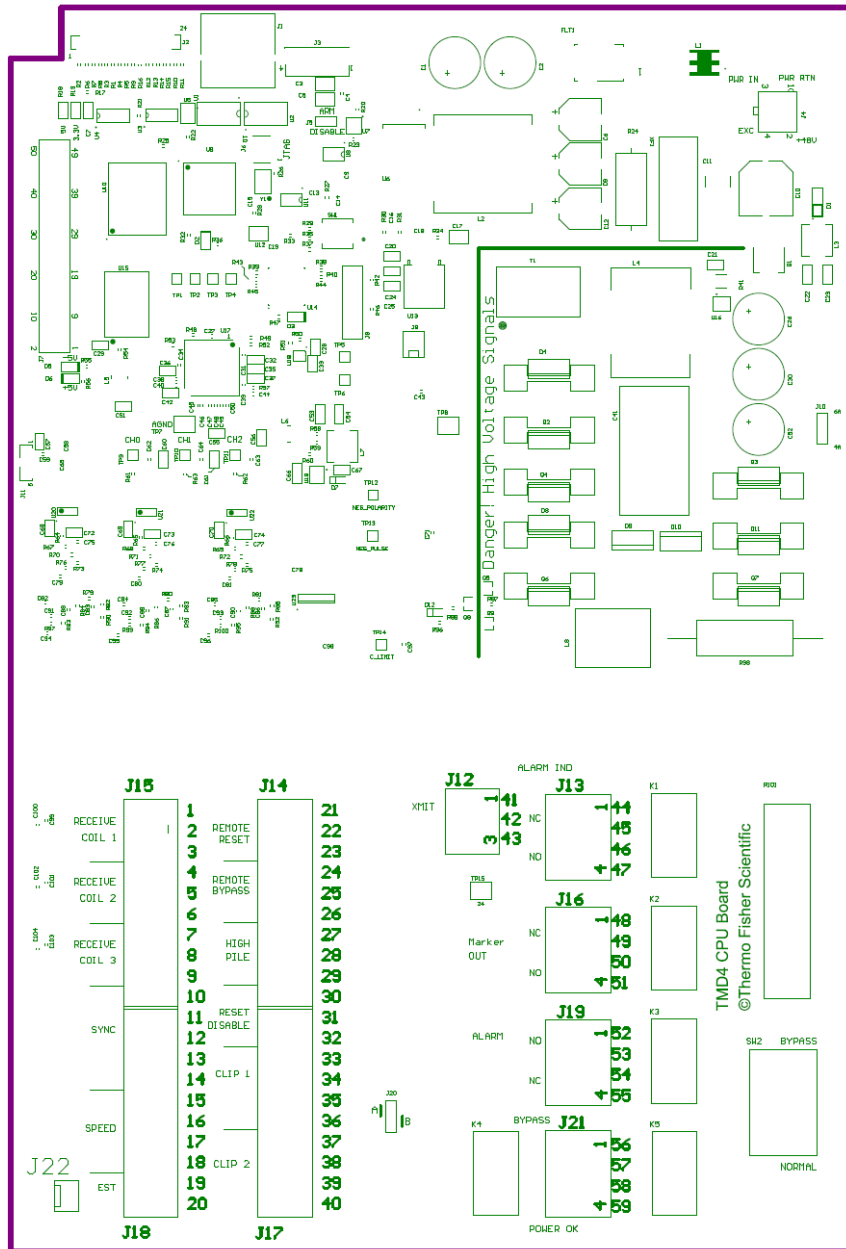

Figure 2-2 Terminal Block Locations on the CPU board
Follow all cable number specifications on the Field Wiring Diagram (D07468F-E001) when connecting wiring to the CPU board. Figure 2-2 shows the locations of the terminal blocks.
1. Route incoming connections at line voltages above 30 V through a conduit hole in the bottom right of the enclosure so that they are protected by the power cover (see Figure 2-1). Leave enough loose wiring (about 8 in or 20 cm) to allow the board to be moved without having to disconnect wires. Connect all alarm and indicator output wiring to the appropriate terminals (see Figure 2-2).